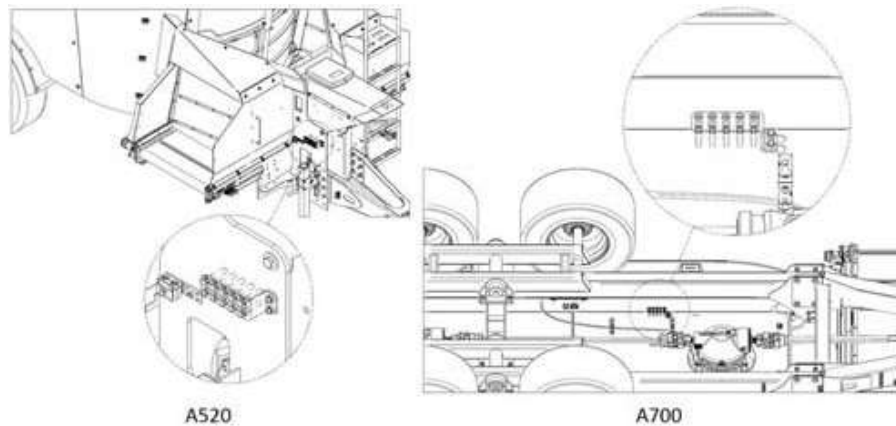

Figure 38 — Location of the Shear Bolts on the A520 and A700 SMARTMIX
3. Insert a new bolt (available on the spare bolt support) (Figure 38) (see Table 17 — Power Take-Off (PTO) Shear Bolts in "Appendix A — SMARTMIX maintenance summary tables" on page 126 for the type of shear bolt to use for your mixer model).